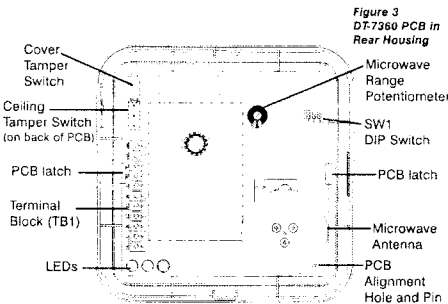

Figure 3
- Push outward on the PCB latch (see Figure 3) and use the microwave antenna to carefully lift the PCB out of the housing.